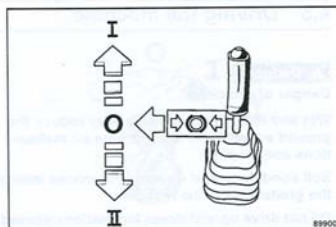

Fig. 30
- Unlock the travel lever (Fig. 30) by shifting it to the left out of braking position and move it slowly to the desired travel direction.